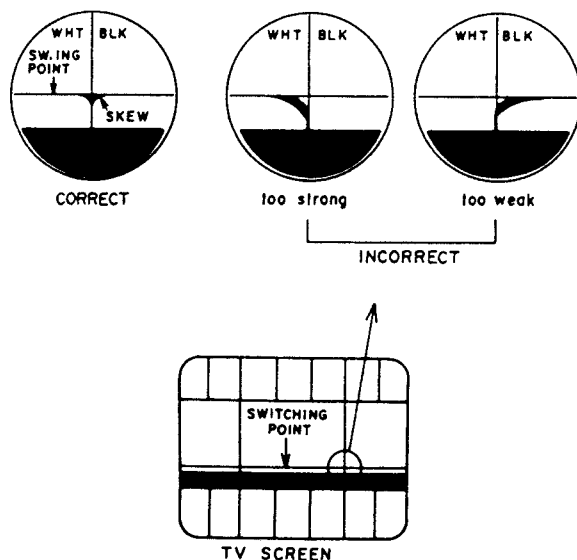

Fig. 4-1
- 2) Observe the TV screen and adjust the V-HOLD of the TV so that the switching point appears on the TV screen as shown in Fig. 4-1.